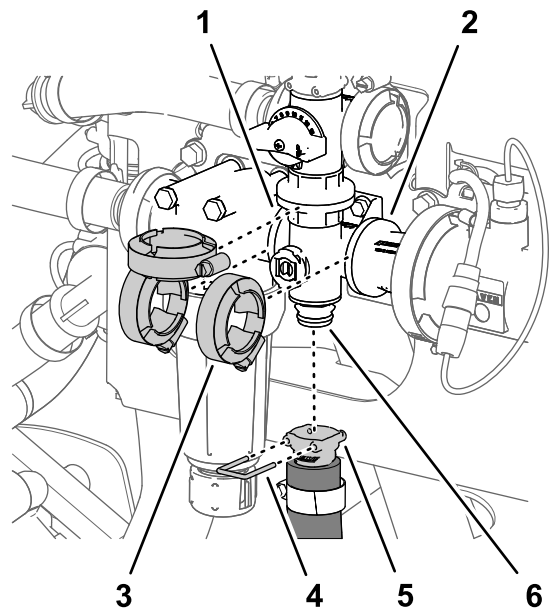
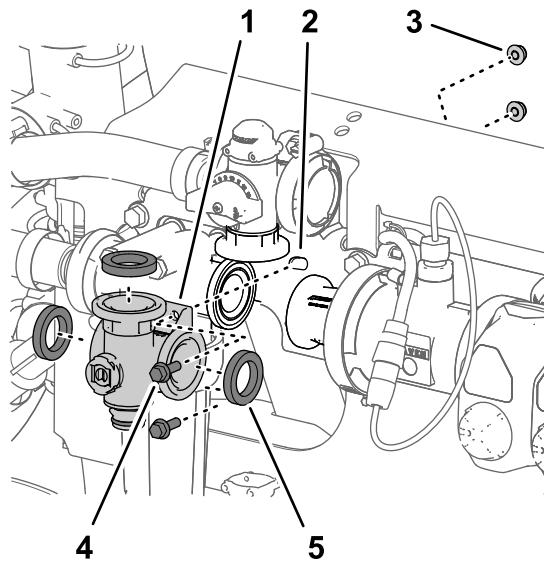

Figure 119
Figure 118
1. Align the flange of the agitation-valve manifold and 3 gaskets with the flanges of the agitation-bypass valve, pressure filter head, and coupling adapter (Figure 118 and Figure 119).
2. Loosely secure the agitation-valve manifold to the agitation-bypass valve, pressure filter head, and coupling adapter (Figure 119) with the 3 flange clamps that you removed in Removing the Agitation-Manifold Valve \(page 78\).
5. Tighten the 3 flange clamps by hand (Figure 119).
6. Assemble the quick-connect coupler of the agitation hose onto the quick-connect fitting of the agitation-valve manifold with the quick-connect pin (Figure 119).